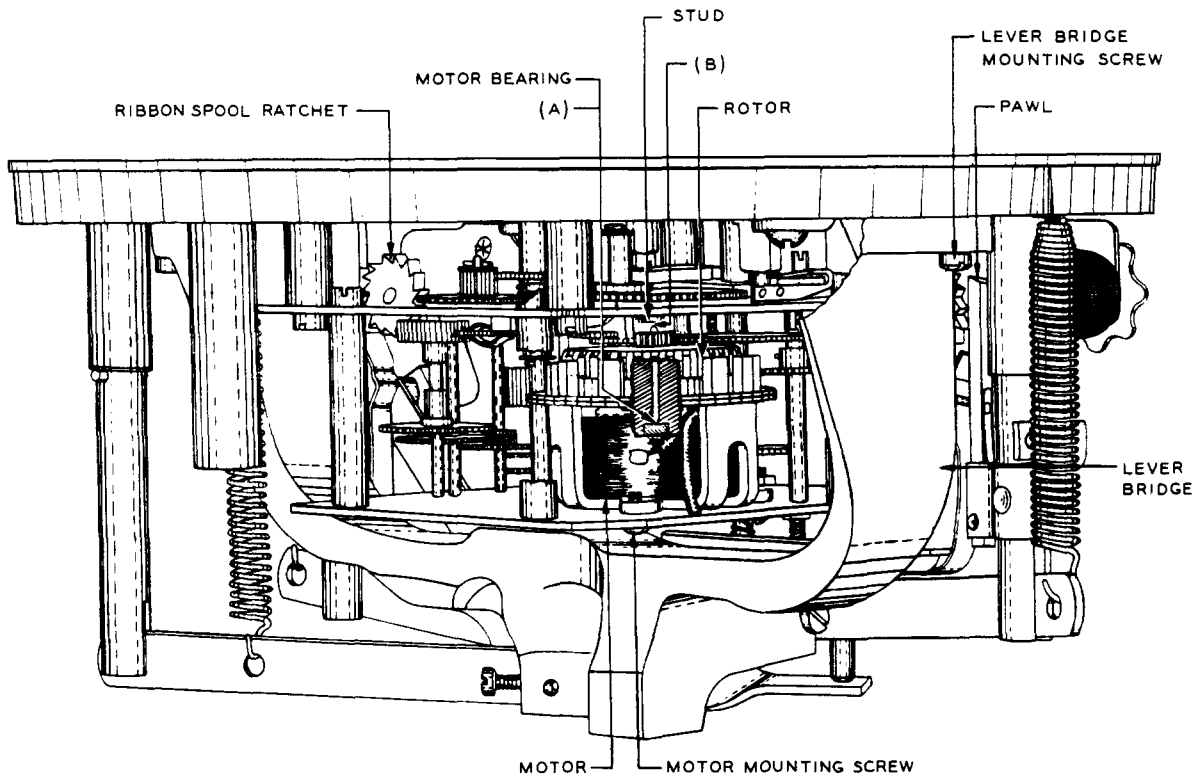

Fig. 3 — Motor Mechanism — Model 30 Calculagraph
(d) **Model 30 Calculagraph:** Fig. 3(A) —
- (a) **Motors Equipped With Copper Bar Rotors:** Fig. 3(B) — With the motor shaft resting in its bearing, the clearance between the stud on the clock movement frame and the motor shaft shall be